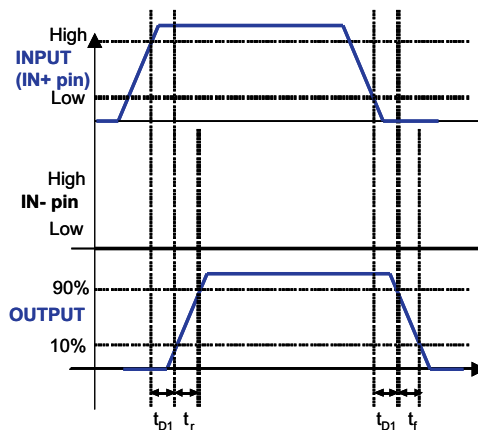
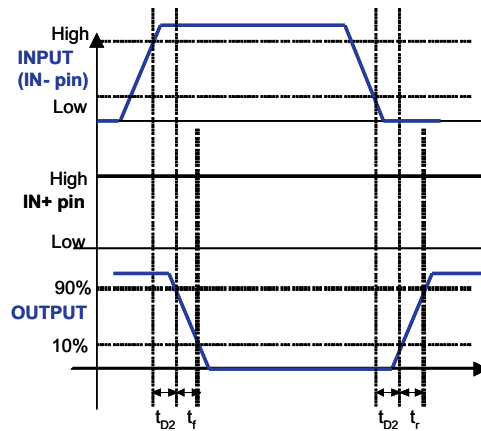

Figure 1. Non-Inverting Configuration (PWM Input to IN+ pin (IN- pin tied to GND), Output represents OUTH and OUTL pins tied together)
Figure 2. Inverting Configuration (PWM input to IN- pin (IN+ pin tied to VDD), Output represents OUTH and OUTL pins tied together)
(3) See timing diagrams in Figure 1, Figure 2, Figure 3 and Figure 4.